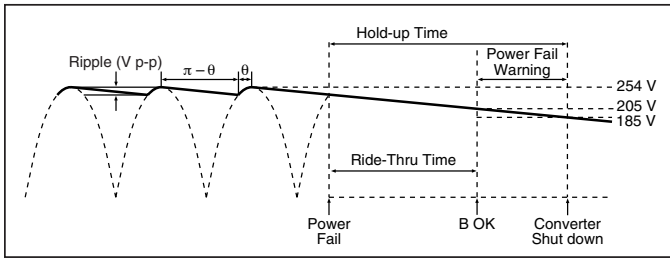
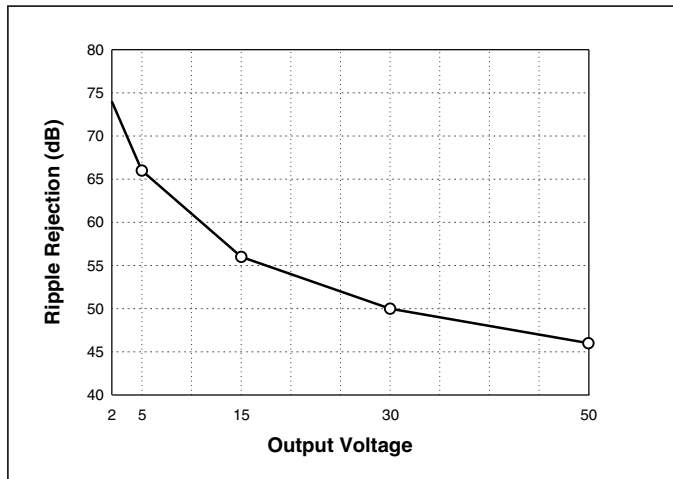

Figure 13 — Hold-up time
Figure 17 — Converter ripple rejection vs. output voltage
Hold-up Capacitors. Hold-up capacitor values should be determined according to output bus voltage ripple, power fail hold-up time, and ride-through time (see Fig. 13). Many applications require the power supply to maintain output regulation during a momentary power failure of specified duration, i.e., the converters must hold-up or ride-through such an event while maintaining undisturbed output voltage regulation. Similarly, many of these same systems require notification of an impending power failure in order to allow time to perform an orderly shut down.
The power fail warning time (Δt) is defined as the interval between B OK and converter shut down (EN) as illustrated in Fig. 13. The Bus-OK and Enable thresholds are 205 V and 185 V, respectively. A simplified relationship between hold-up time, operating power, and bus capacitance is obtained by inserting these constants:
For example, a converter whose output is 15 V and nominal input is 300 V will provide 56 dB ripple rejection, i.e., 10 V p-p of input ripple will produce 15 mV p-p of output ripple (see Fig. 17). Equation 3 is again used to determine the required capacitance. In this case, V_1 and V_2 are the instantaneous values of bus voltage at the peaks and valleys (see Fig. 13) of the ripple, respectively. The capacitors must hold-up the bus voltage for the time interval (Δt) between peaks of the rectified line as given by:
DC-DC Converter. Figure 17 is used to determine the ripple rejection of the DC-DC converter and indicates a ripple rejection of approximately 60 dB for a 12 V output. Since the ripple on the bus voltage is 12 Vac and the ripple rejection of the converter is 60 dB, the output ripple of the converter due to ripple on its input (primarily 120 Hz) will be 12 mV p-p. Note that 2nd Generation converters have greater ripple rejection than either VI-200s or VI-J00s.